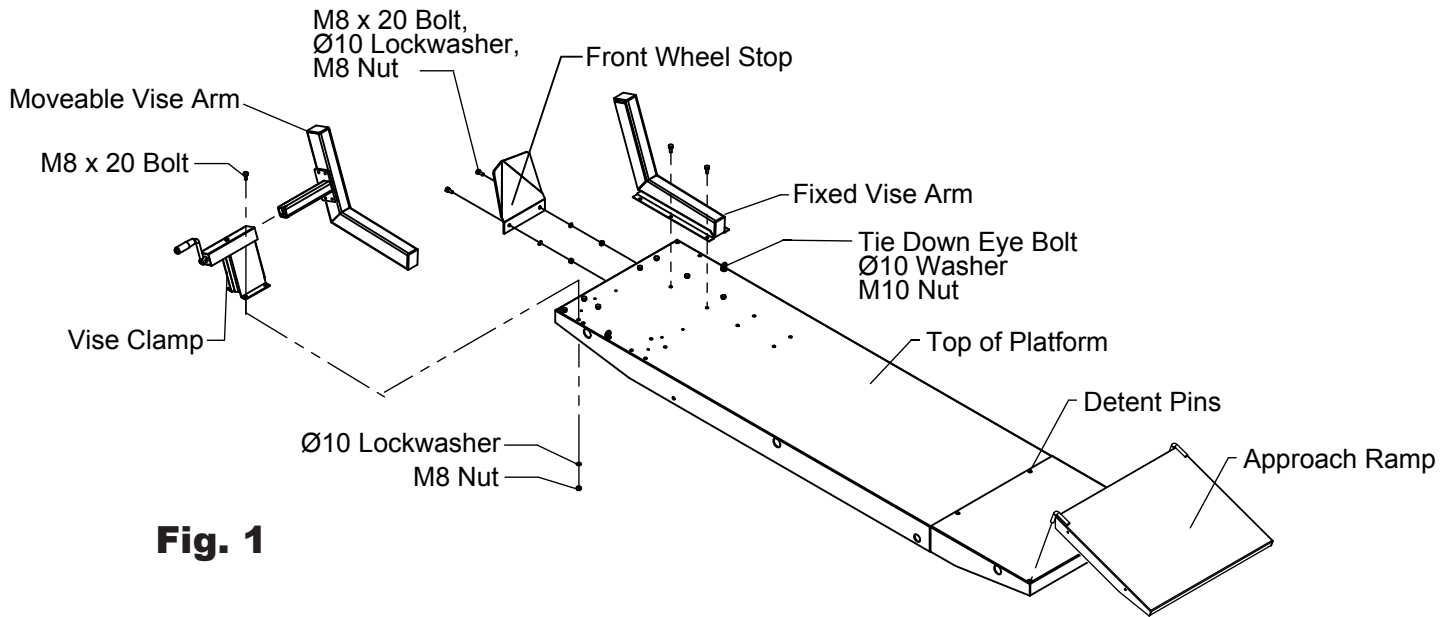

Fig. 1
7. Vice Installation, see Fig. 1:
- a. Install the vise clamp using (4) M8 x 20 bolts, lockwashers, and nuts.
- c. Install the fixed vise arm using (6) M8 x 20 bolts, lockwashers, and nuts.
8. Install wheel stop as shown, Fig. 1 using M8 x 20 bolts, lockwashers, and nuts.
9. Install tie down eyebolts as shown in Fig. 1 using M10 eyebolts, washers, and nuts.